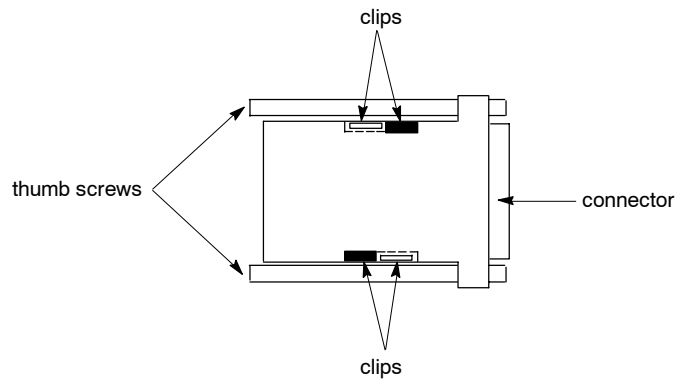
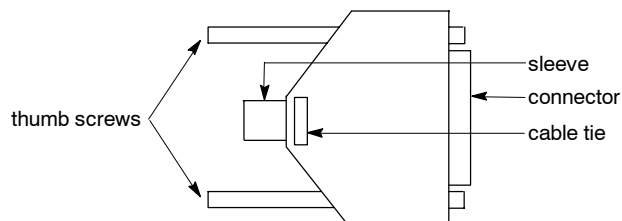

Figure 1: The old backshell
Figure 2: The new backshell
If you have a backshell as shown in Figure 1, it is recommended that you replace it with a new backshell (see Figure 2). The new backshell has the same part number as the old backshell (Codan part number 60-91638-001). Continue with the following procedure.
If your antenna tuner has a control cable connector with a backshell as shown in Figure 2, the backshell is correct and no further action is required.
- Use a small screw driver to pry open the four clips (one on each corner of the backshell) and remove the top and bottom of the connector backshell (see Figure 1).
- Slot the connector into the groove at the front of the new backshell (see Figure 2).